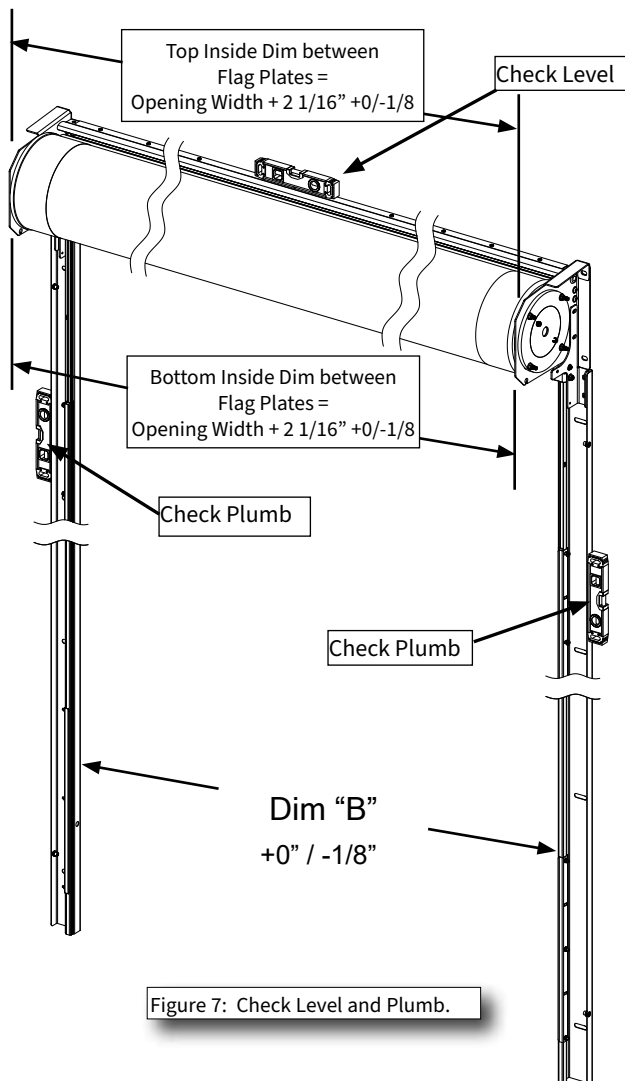

Figure 7: Check Level and Plumb.
2. Place the entire structure centered around the construction opening (Figure 7).